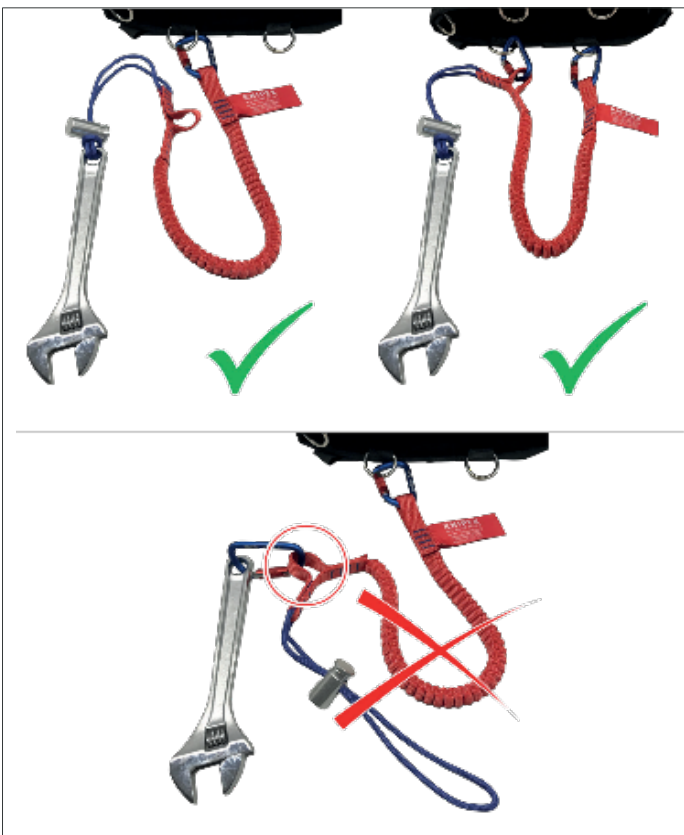

Figure 9: Using the abridged connection to connect to tools
- The flat belt loop for abridged connection must never be used to secure a tool for fall protection (figure 9).